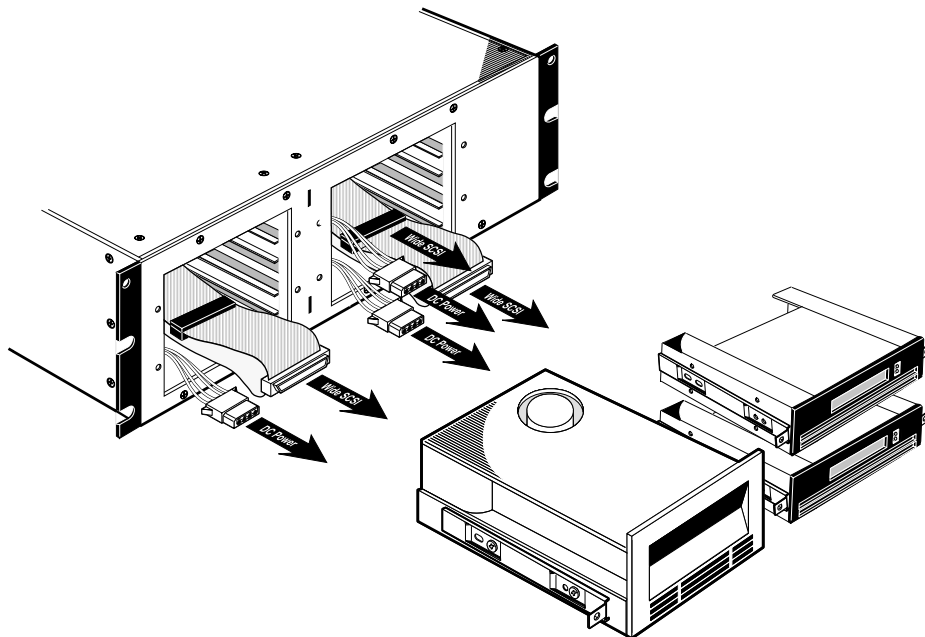

Figure 9: Connecting the DC Power Cables and I/O Cables to the Drives
5. Connect the 4-pin DC power cable to the power connector located on the rear of the device, and the I/O cable to the drive (Figure 9). Verify that the PIN 1 indicator (indicated by a red stripe) on the I/O cable is properly aligned. (Refer to the drive manufacturer's documentation for specific drive formation). The length of these cables should allow easy access to each drive from the front of the NetMEDIA chassis.